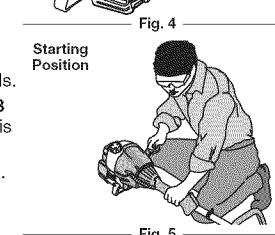

Fig. 5
WARNING: Avoid accidental starting. Make sure to be in the starting position when pulling the starter rope (Fig. 5). To avoid serious injury, the operator and unit must be in a stable position while starting.
- Crouch in the starting position (Fig. 5), squeeze the throttle control, and pull the starter rope out with a controlled and steady motion 5 times.